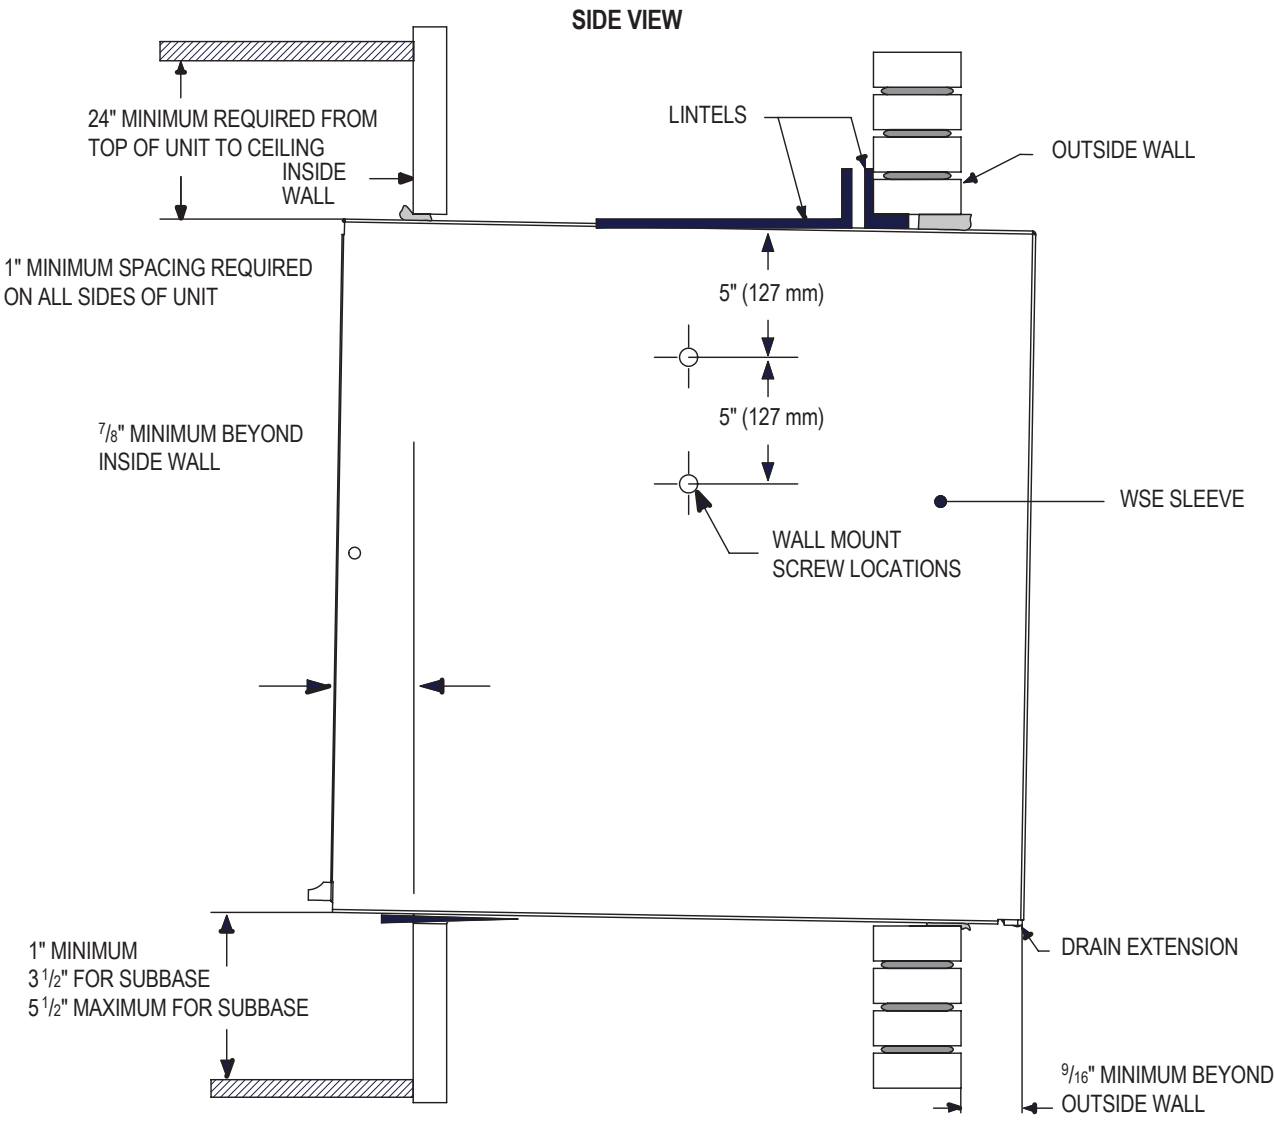

Figure C.4.1
- STEP 1.** The WSE sleeve should be positioned so that the drain extension extends a minimum of $\frac{9}{16}$ " beyond the outside wall (see Figure C.4.1).
- STEP 1.** After unpacking the WSE sleeve from the carton, remove the indoor weather panel. Place the WSE sleeve in the wall opening following the instructions given in the Installation Requirements. Attach the sleeve to the inside wall by driving two #12A x 2" screws in each side of the sleeve (see Figure C.4.1). Shim at the top of the sleeve, midway between the sides. Drive one #12A x 2" screw in the top of the sleeve. If the wall opening is not framed with wood, use expansion anchor bolts or molly (toggle) bolts (not provided).